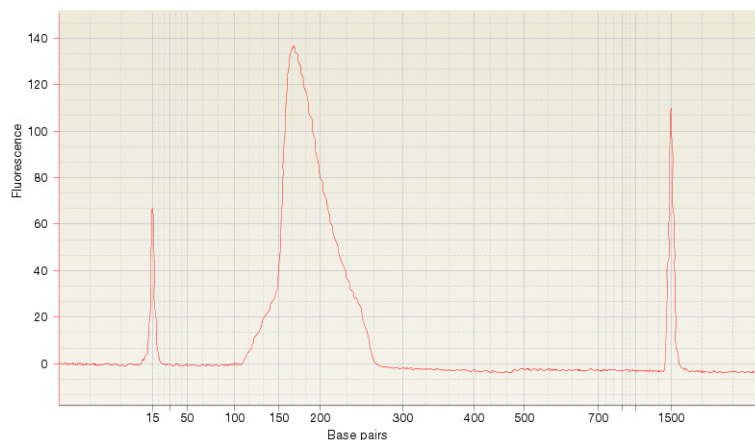

Figure 4 HeLa poly(A) RNA run on an Agilent 2100 Bioanalyzer after amplified library construction
Figure 4 and Figure 5 show profiles from an Agilent 2100 Bioanalyzer after amplified library construction using the SOLiD™ Whole Transcriptome Analysis Kit. Figure 4 shows results with HeLa poly(A) RNA. Figure 5 shows results with rRNA-depleted HeLa RNA.